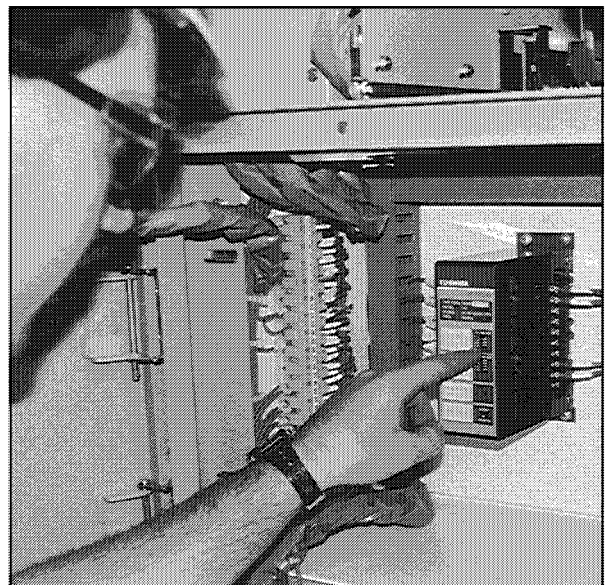

Fig. 37 Overload Setting Check
- Overload relays should be checked to be sure they are selected and adjusted to the proper settings per the load nameplate data (Fig. 37).